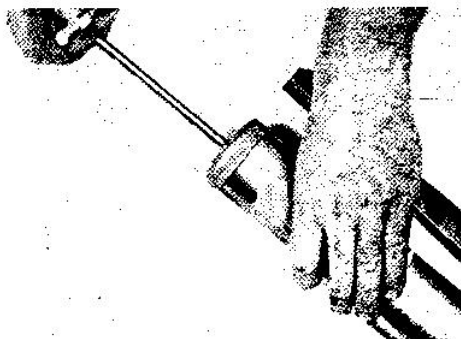

FIG. 5 - Pushing Follower Rod into place in the cylinder of the 6594 Gun.
- b. Disengage follower rod (turn in clockwise direction) and push rod into operating position (Fig. 5). Gun is now ready to use.